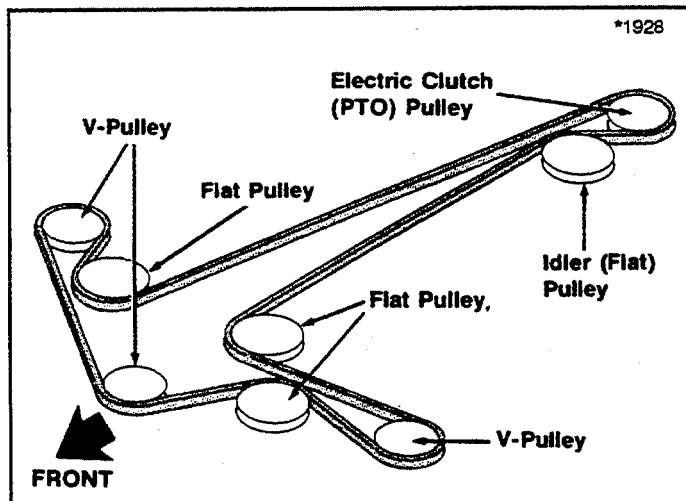

Figure 10. Mower Belt Routing
9. Check mower belt routing carefully. Belt should be positioned as shown in figure 10.